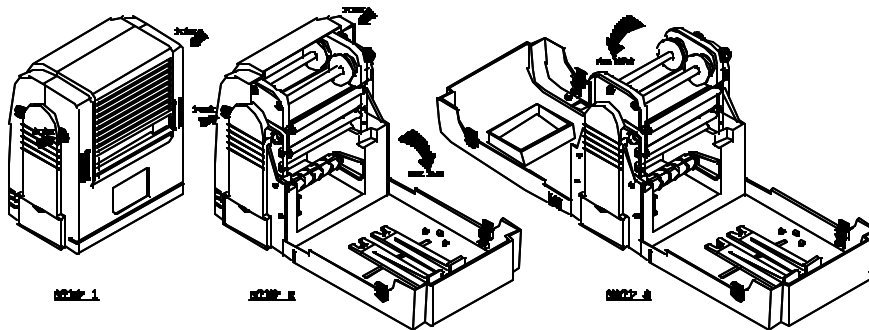

Fig. 2.2.1
1. Open the cover by pressing the locking tenon on both sides and folding the cover rearwards (see figure 2.2.1 step 2 & step 3).